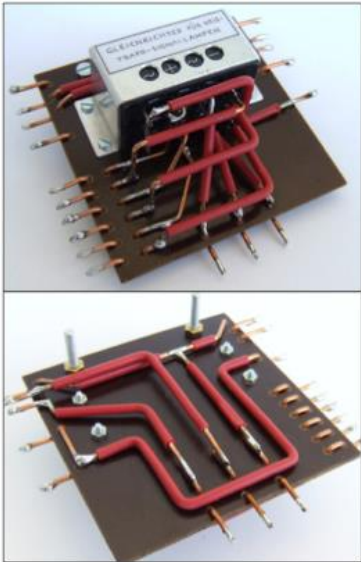

Figure 5
- < The rectifiers (G3, G4 and G5) for the signal lamps (SL6, SL7 and SL8) of the three filament voltages from the additional power transformer, see figure 5